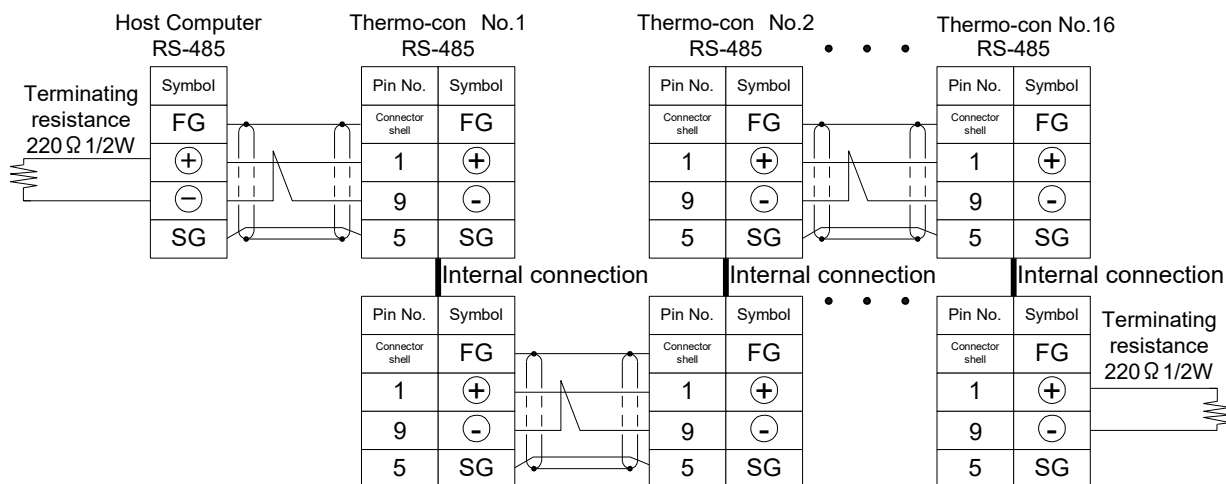
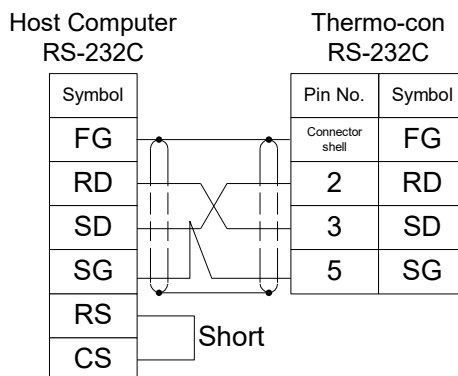

Figure1-1 Communication Connection (RS-485)
Figure1-2 Communication Connection (RS-232C)
- Connection drawing for communication is shown in the Figures 1-1, Figures 1-2.